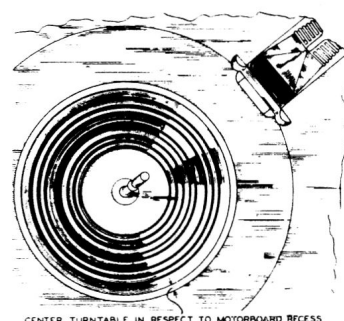

Figure 11
3. Turn the spindle so the step in the centerpost is away from the record support. (Figure 11.)
3. Center the turntable in respect to the recess in the motorboard by shifting the position of the sub-assembly slightly. (Figure 11.)